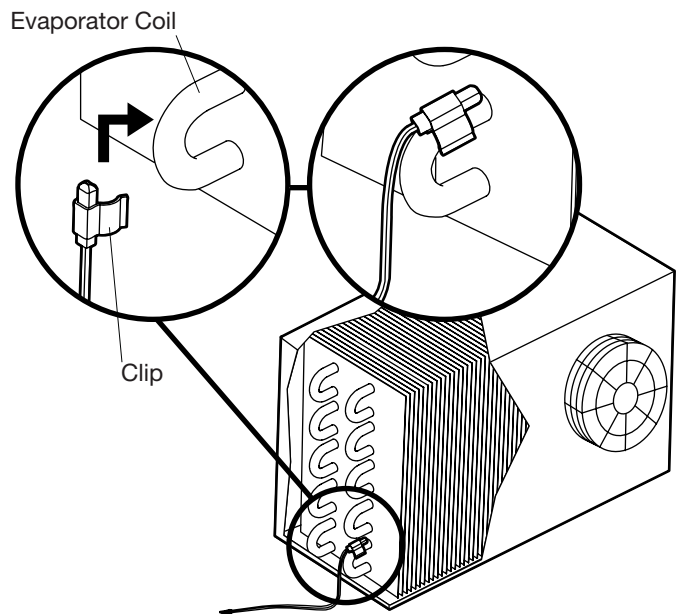

FIG. 9 Connect Thermistor Probe to Evaporator Coil
- Use the provided clip, or if the clip is the incorrect size, use another means to fasten the thermistor probe to one of the circuit tubes e.g., hose clamp, insulation tape, zip tie, as shown in FIG. 9. Clip the probe onto one of the lower coils in either the 10 o'clock or 2 o'clock position, making sure that the probe makes good contact with the evaporator tube.